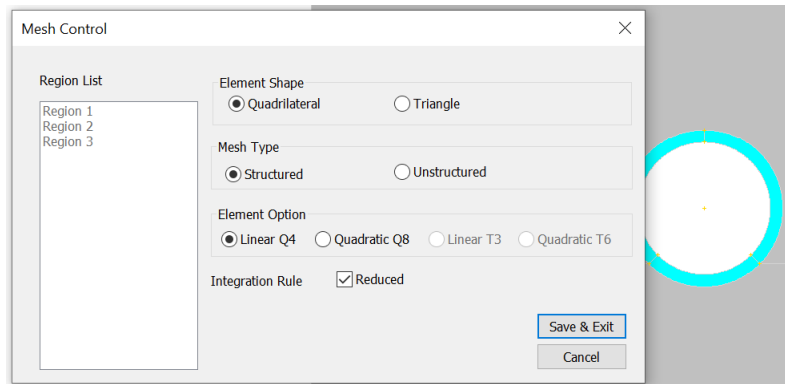

Figure 2.4-26: Advanced mesh control for culvert regions
Click  to display all soil layers and the culvert, then use the zoom window tool, , to focus on the culvert region. From the menu bar, click “**pre-Mesh->Advanced Mesh Control**”, and select the three ‘fan’ regions belonging to the culvert. RIGHT-CLICK and select “**End Selection**” to open the mesh control dialog, as shown in Figure 2.4-26.
- Reduced integration minimizes shear locking in Q4 elements and is suitable for confined structures (Figure 2.4-26).
Based on the above considerations, set the mesh control parameters as "Quadrilateral", "Structured", and a "Linear Q4" element with reduced integration rule, as seen in Figure 2.4-26. Click **"Save & Exit"** when complete.